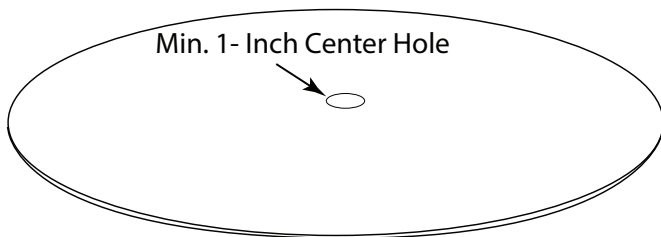
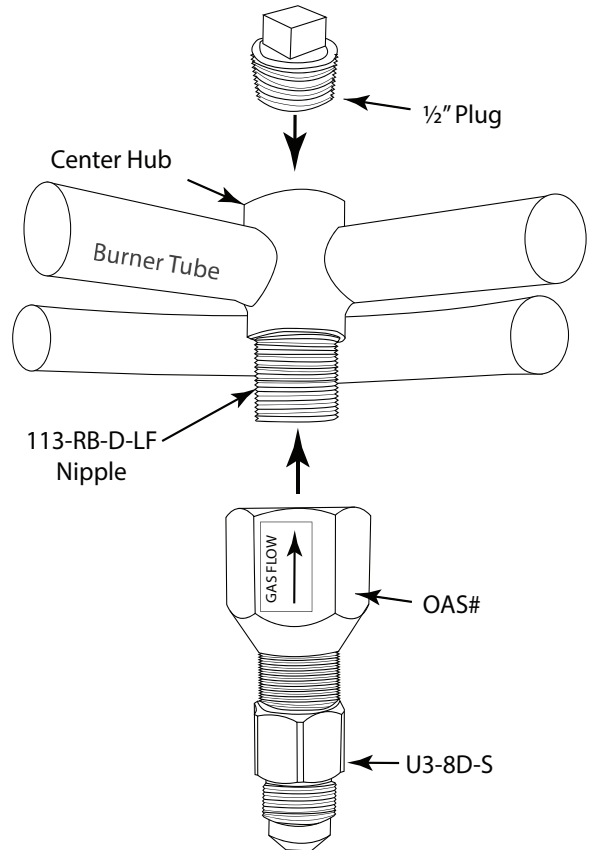
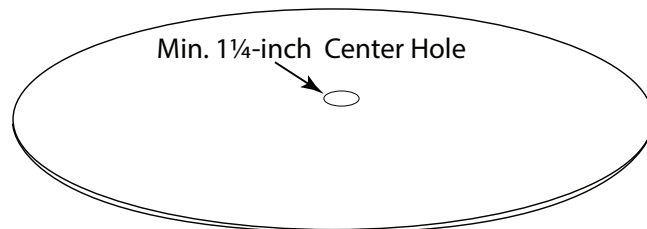

Fig. 6 Minimum 1-inch center clearance hole in burner pan.
Fig. 7 Natural gas models 6/12/18/24-inch fire ring parts.
Fig. 9 Minimum 1¼ -inch center clearance hole in burner pan.
CAUTION: Do not assemble the OAS and U3-8D-S until you are ready to install the fire ring into the burner pan. The OAS is 1½" in diameter and would not fit the recommended center hole size per Fig. 6 and Fig. 9.
Before you begin installing the fire ring into a burner pan ensure the center hole is a minimum of 1-inch in diameter (See Fig. 6). Models FG-FR-6SS, FG-FR-18SS, FG-FR-24SS are supplied with a ½" plug, ½" nipple, OAS and FIP x MIP flare fittings (U3-8D-S). These items must be installed into the fire ring as shown in Fig. 7. Position the Fire Ring port holes facing upward for both Natural Gas and LP Gas. **Ensure to seal each NPT fitting with thread tape or pipe compound.** **NOTE:** Flared fittings will not require tape or compound on the flared side.
Step 1: Install ½" plug on top of fire ring and assemble the remaining parts as shown in Fig. 7.
Before you begin installing the fire ring into your burner pan ensure the center hole is a minimum of 1¼-inch in diameter (See Fig. 9). Models FG-FR-30SS, FG-FR-36SS, FG-FR-48SS come with a ¾" plug, ½" nipple, OAS and FIP x MIP flare fittings (U3-8D-S) and ¾" to ½" reducer.